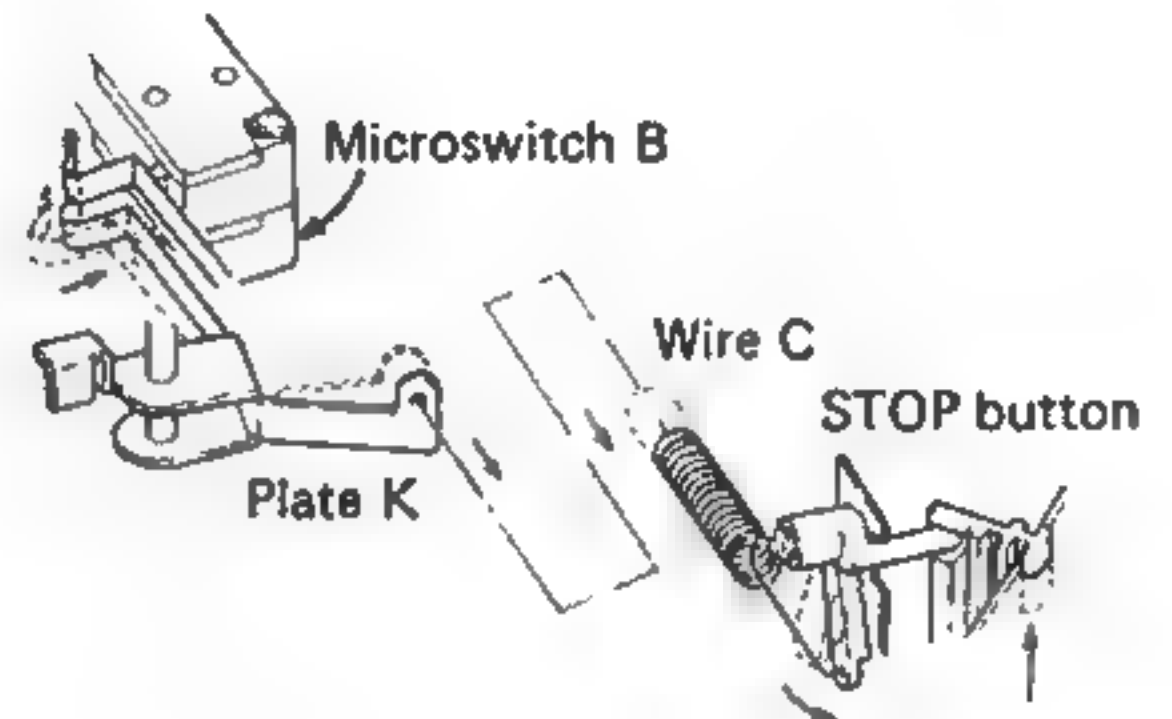

Fig. 15
1. When the STOP button is pressed during play, wire C pulls plate K, setting microswitch B to ON (Fig. 15).